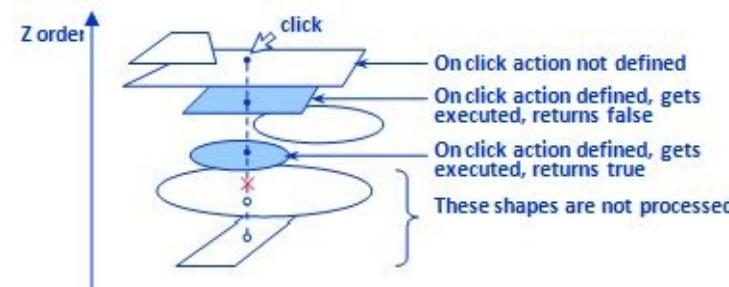

Figure 13.13 AnyLogic processing of mouse clicks
10. Draw a blue line under the text "Output" to make it look like a hyperlink, see Figure 13.13.